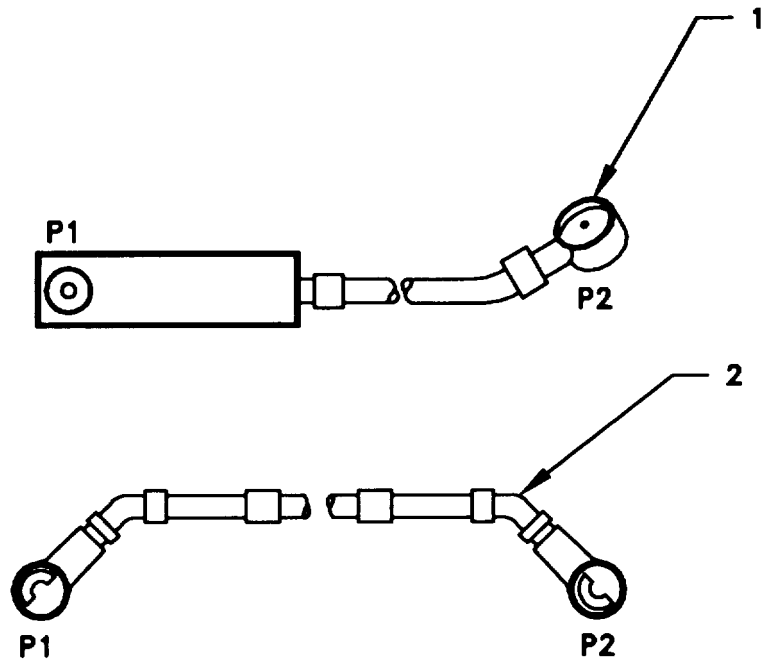

Figure 4-1. MK Illustrated Parts List
4.3.1 Items Supplied In MK and/or Required for Installation. Use Table 4-1 and Figure 4-1 to identify and inventory MK parts.